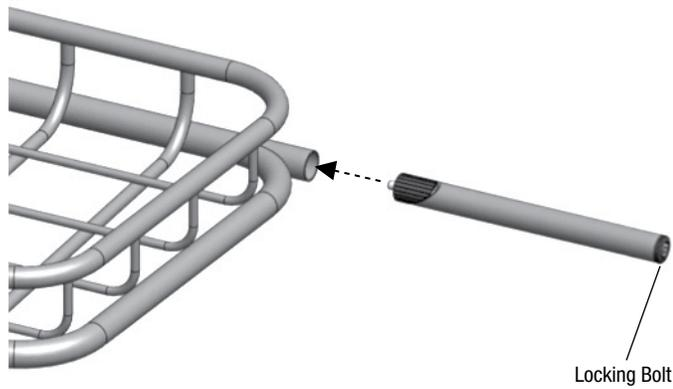

fig. 2
- 2 Insert the two (G) extendable tubes in the ends of the hood rack as shown in figure 2. Tighten bolts at the ends with a 6mm Hex key just enough to hold tube in place. You will tighten **after** final assembly.